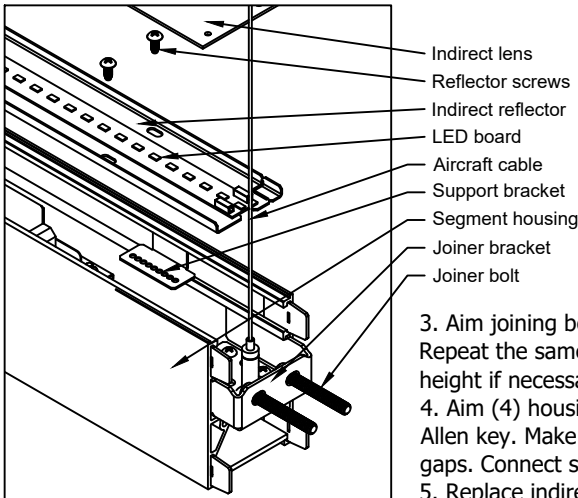

Fig. 4. Segment joining
3. Remove indirect lens and indirect light reflector with LED boards from BOR segment (Fig. 4). Handle with care, LED boards are fragile. Save reflector screws. Disconnect LED board quick disconnect. Reflector serves as a cover for fixtures with direct light only. All instruction steps (besides related to LED power) applied to direct only fixtures as well.